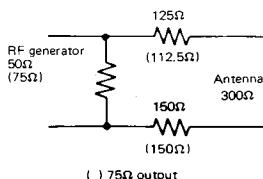

Fig. 1 Dummy antenna
- \* When connecting the r.f. generator to the antenna terminal, use the dummy antenna . . . refer to Fig. 1.